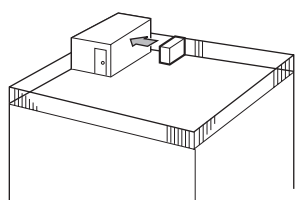

Fig. 2-3
- Face the air outlet towards the nearest available wall about 500 mm, 19-11/16 inches away from the wall. (Fig. 2-3)